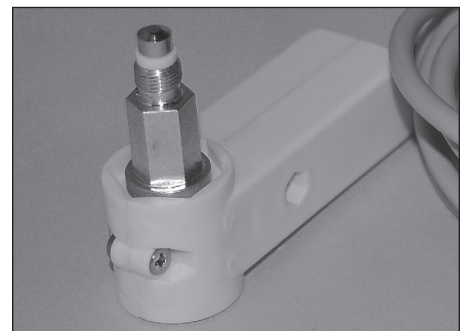

Figure 7
5. Install the Power Cutout Module, **Figure 7**, to the water heater as indicated. Upon completion of the installation of the Power Cutout Module, route the connecting cable to the Control Unit and insert the interlocking connector to the circuit board.